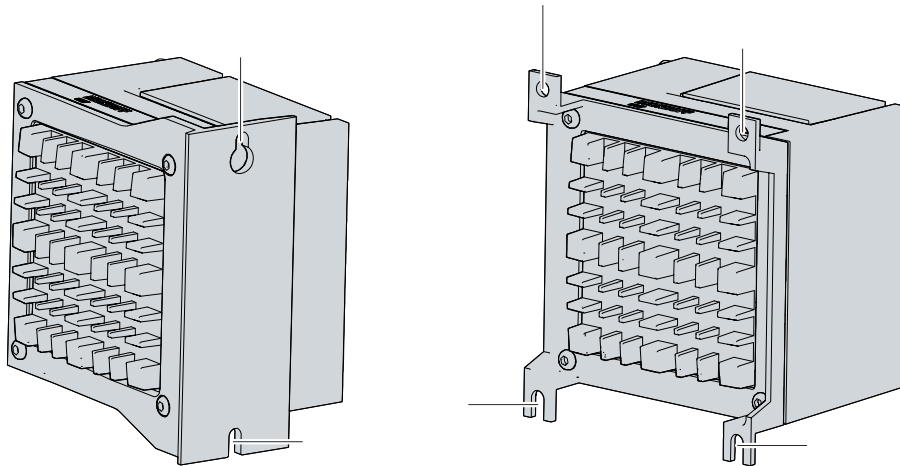

Fig. 25: C6017 _Position of the fastening screws
2. Lift the PC until the fastening screws slide into the keyholes (see Fig. 25).